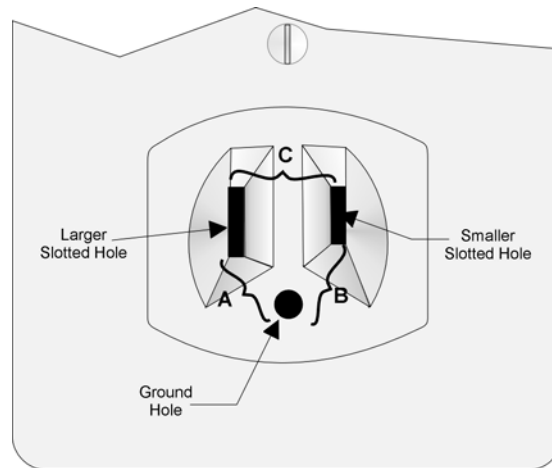

Figure 3-11 Outlet Voltage Measurement Points
1. Measure the AC voltage between the center ground post and each side of the outlet (see A & B in Figure 3-11). You should read approximately 120 VAC (or 240VAC for 240VAC circuits) at measurement point B and nominal VAC at measurement point A.
2. Measure the voltage between the two slotted holes. It should be equal to the voltage reading at measurement point B. (See Figure 3-11.)